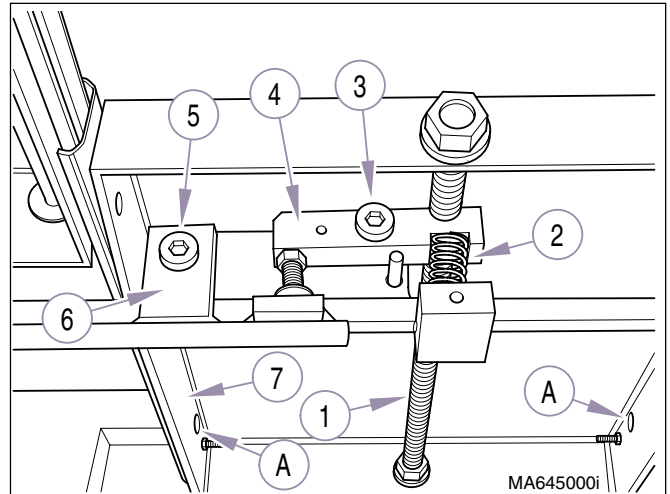

Figure 4-35. Foot Extension
Hold down brake release handle when removing brake shaft (1, Fig. 4-35), then, slowly release handle and remove brake lever spring (2).
- (4) Remove threaded brake shaft (1, Fig. 4-35) by removing the two outer nuts and backing off the two inside nuts approximately 1/2" (1.3 cm).
- (5) Remove brake lever spring (2).
- (6) Remove shoulder bolt (3) and threaded brake lever (4).
- (7) Remove shoulder bolt (5) and brake release handle (6).